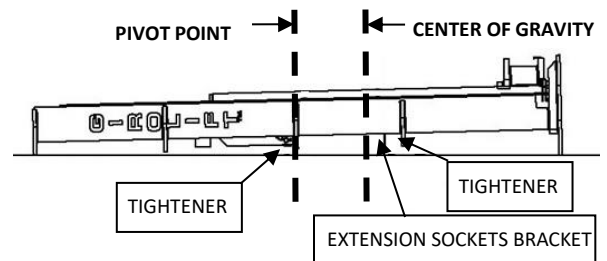

FIGURE 8 : POINT OF PIVOT AND CENTER OF GRAVITY OF A GROUND COLUMN
3.1 USING A SAFE AND ADEQUATE HANDLING EQUIPMENT AND A LIFTING STRAP, MOVE THE COLUMN AT THE NEAREST INSTALLATION SITE. PLACE THE LIFTING STRAP AT THE CENTER OF GRAVITY (EQUAL WEIGHT DISTRIBUTION) OF THE COLUMN. SEE **FIGURE 8.**
3.3 MOVE THE LIFTING STRAP TO PIVOT POINT UNDER THE TIGHTENER. SEE **FIGURE 8.**